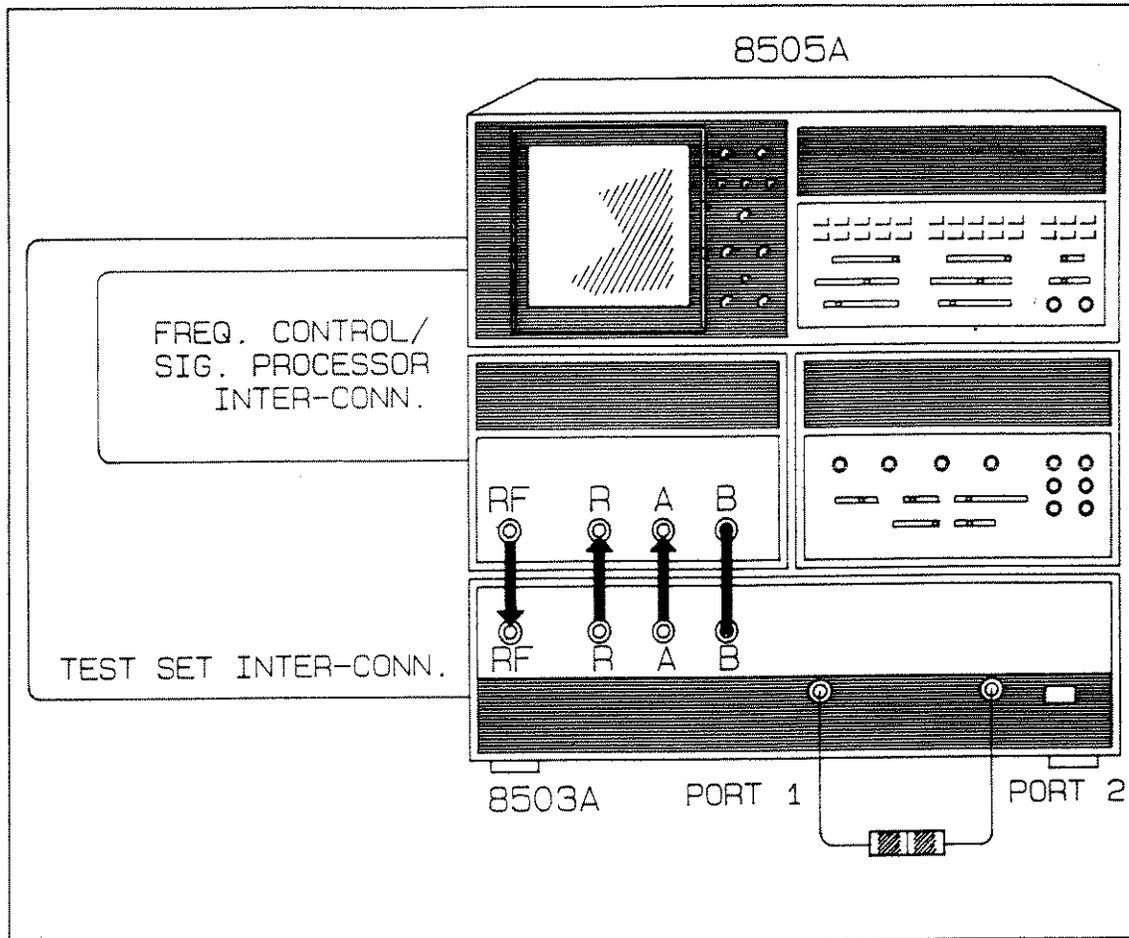

Figure 10-6 Insertion Loss Calibration Setup
- a. Connect the 8505A and the 8503A together as shown in Figure 10-6. Use a shorting connector to connect Port 1 and Port 2 of the 8503A together as shown in Figure 10-6.
*Connect the 8505A to the 8503A as shown in Figure 10-6.*
*Connect the 8505A and the 8303A together as shown in Figure 10-6.*